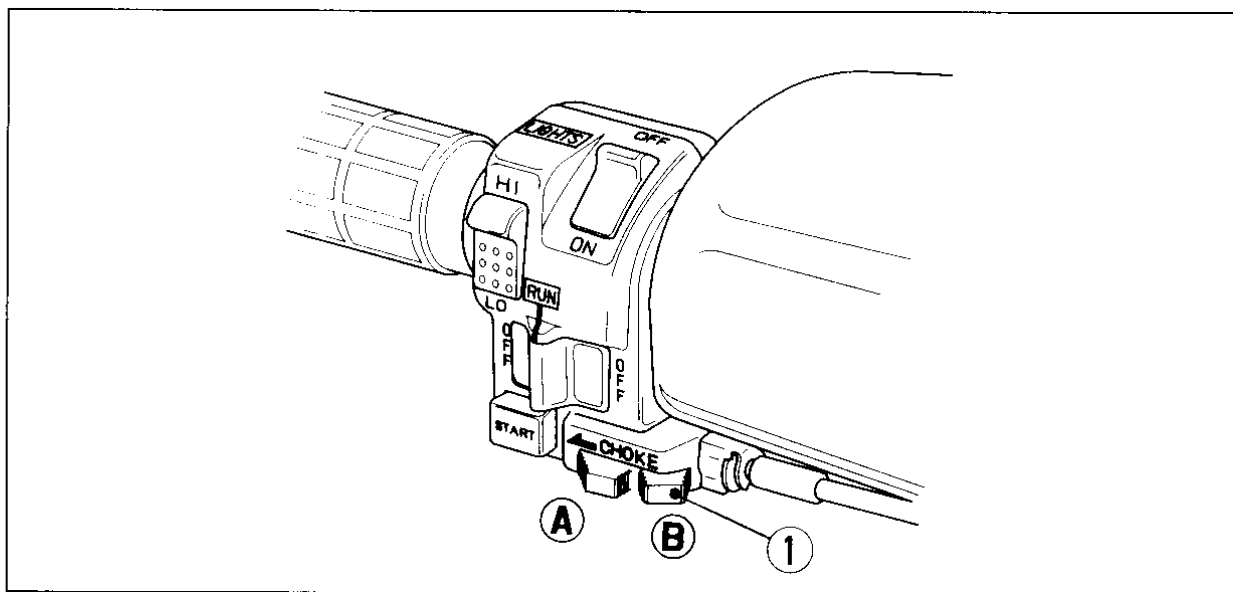

Fig. 2-6
The choke lever (Fig. 2-6) is next to the starter button. The choke has two positions: fully ON (A), and fully OFF (B).